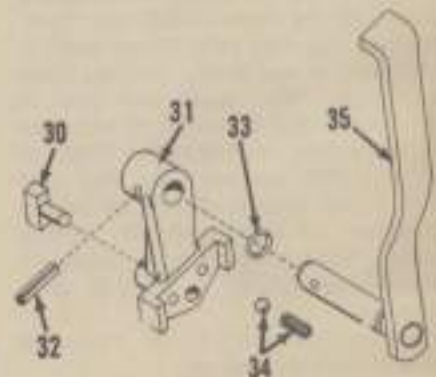

Fig. 143 — Exploded view of the pto shifter assembly. The shifter collar is shown at 18 in Fig. 144.
223. To remove the PTO shift coupler (18—Fig. 144) and/or shifter arm (31—Fig. 143), it is first necessary to split the tractor between the transmission and torque housing as outlined in paragraph 172 or 180. Then, remove pin (32), withdraw lever and shaft (35) and remove shifter arm (31) and insert (30). Slide shifter collar from end of PTO front shaft.